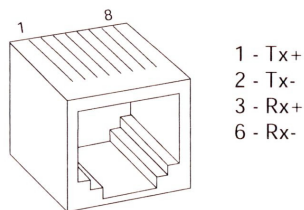

Figure 2: RJ-45 Ethernet Jack Pinouts
1. 10BASE-T Ethernet Port (refer to Figure 2)